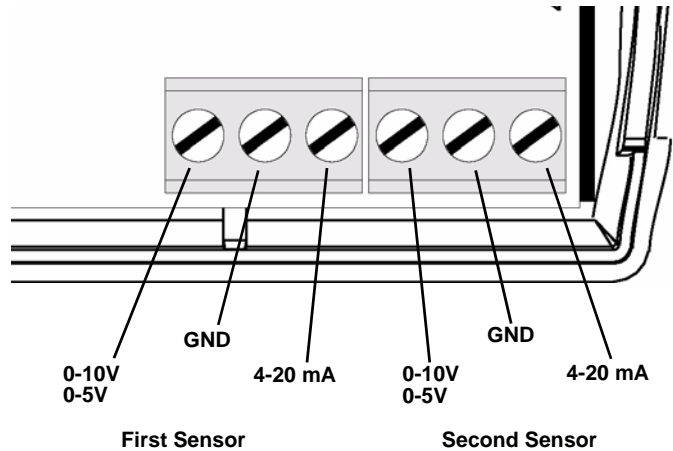

Figure 2 EN1702 External Sensor Wiring
2. Referring to Figure 2, use a small screwdriver to attach the external sensor(s) wiring leads to the appropriate terminal blocks.